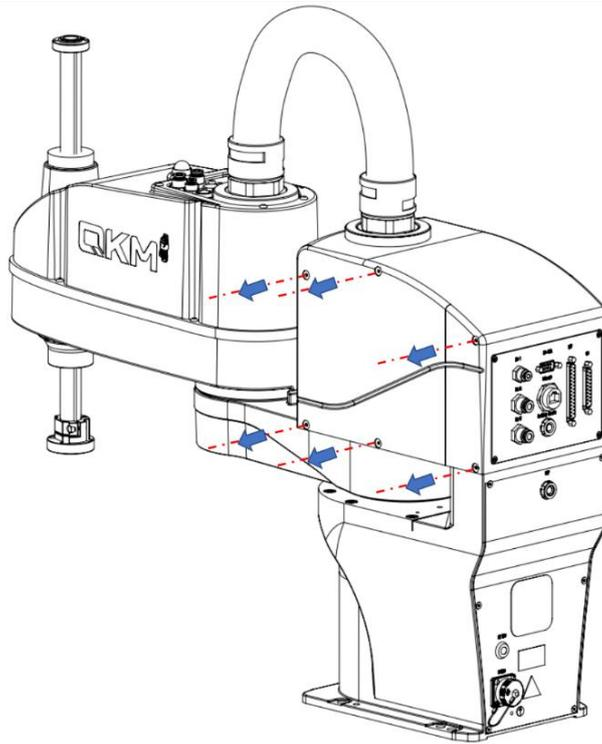

Figure 4-6 Removal of side door panel
Step 1 Use 3 mm Allen wrench to remove screws from the side door panel of upper control cabinet of the robot, as shown in Figure 4-6.